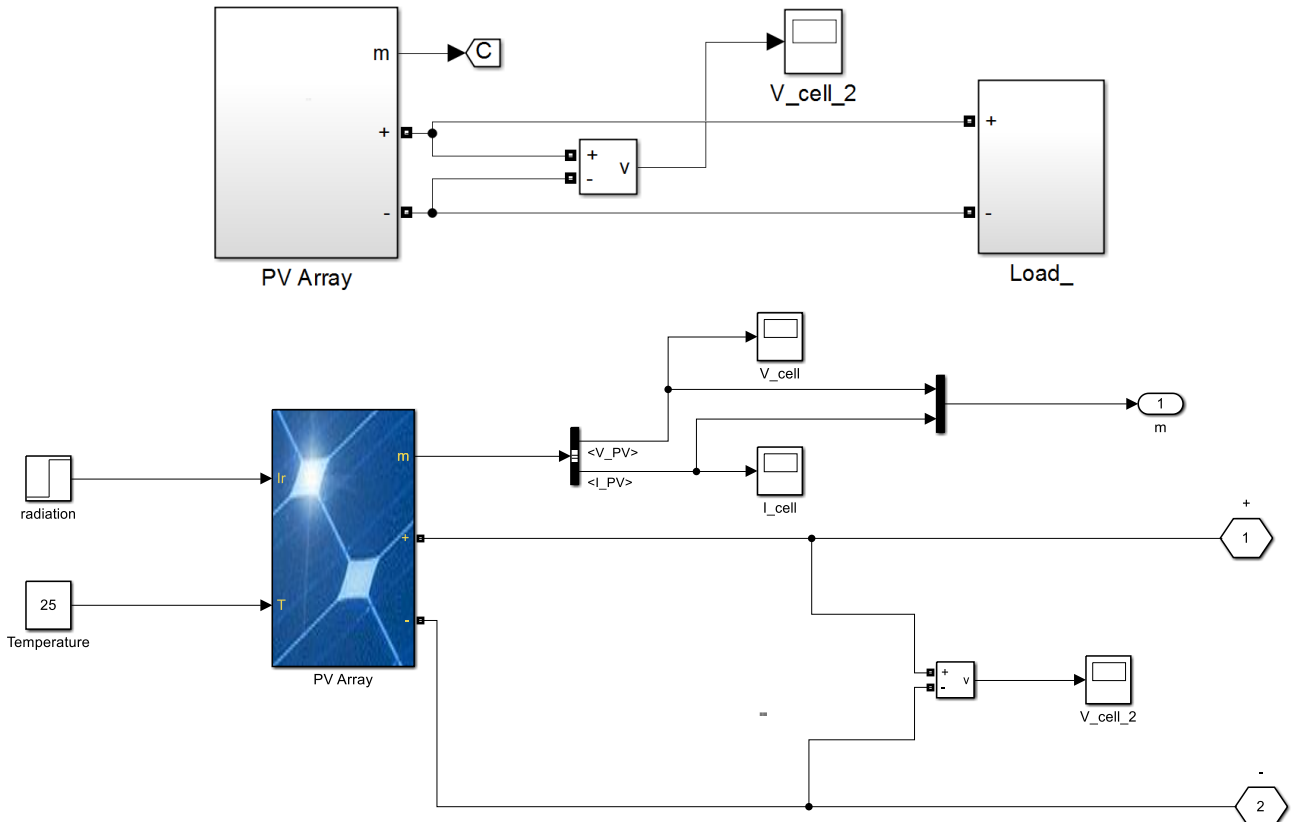

**Fig. 5: I-V and P-V characteristics curve of the PV array**
For the simulation purpose, use one parallel string and two series connected modules per string. Each module has the following data and I-V and P-V characteristics curve as shown in fig. 5.
- From fig. 5,  $V_{mpp} = 28$  Volt,  $I_{sc} = 7.6$  A